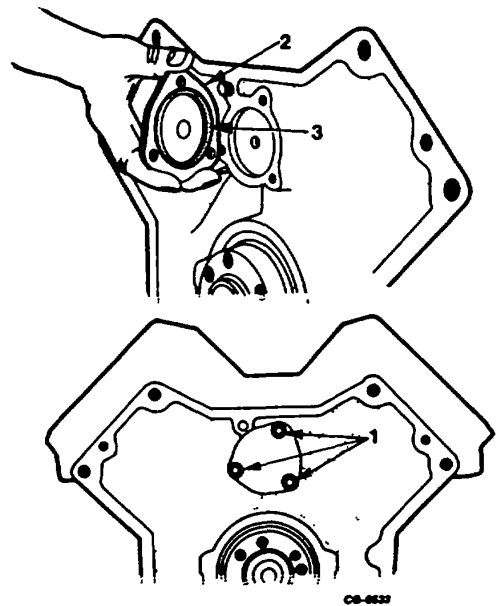

Figure 103. Removing Camshaft Cover Plate
12. Remove three camshaft cover plate mounting bolts and lockwashers, remove cover plate and gasket from end of block (Figure 103).